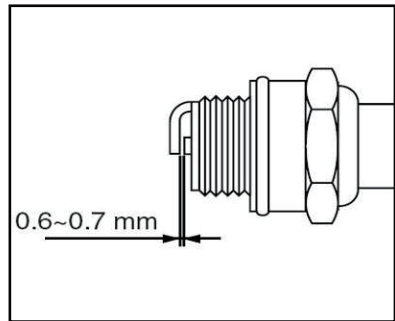

Fig . 16
6. Check the spark plug gap. The acceptable gap should be between 0.6 - 0.7mm (Fig.16).